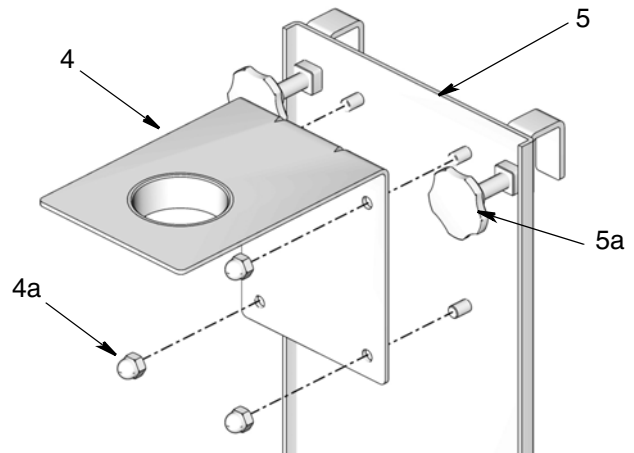

FIG. 12
1. Assemble the two pump bracket pieces 4 and 5, as shown in FIG. 12 using the 4 nuts (4a) (provided).